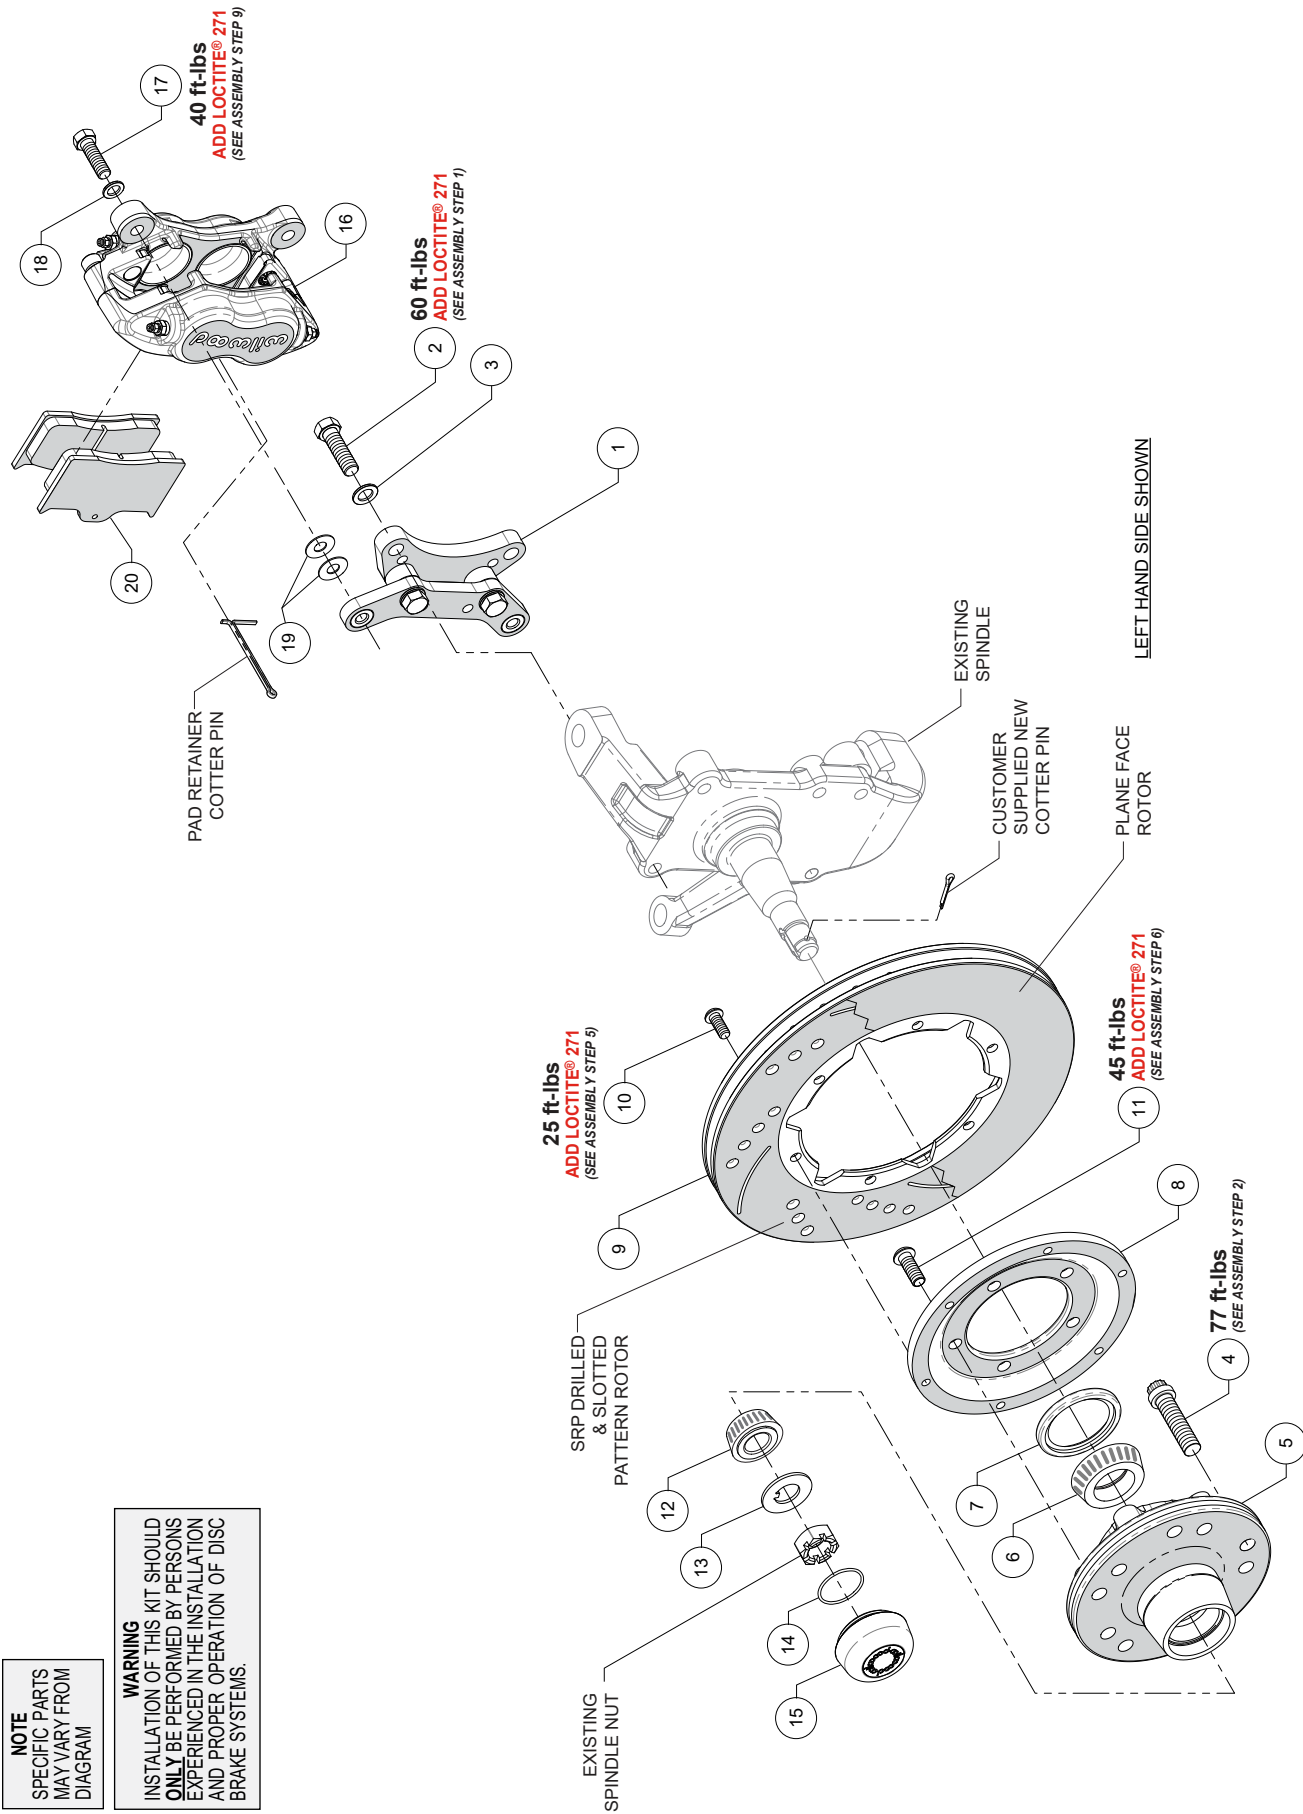
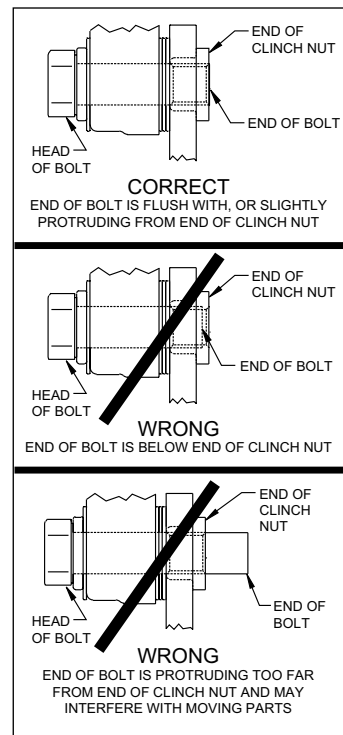

Figure 1. Typical Installation Configuration
Figure 2. Clinch Nut Engagement Diagram
•**NOTE:** Numbers in parenthesis refer to the parts list on the preceding page and Figure 1.
•**CAUTION:** All mounting bolts must fully engage clinch nuts. Be sure to check that all bolts are either flush or protruding through flanged side of clinch nut after shimming, Figure 2.
**STEP 1** Align caliper mounting bracket (1) with the corresponding holes, on the backside of the spindle and attach using bolts (2) and washers (3), as shown in Figure 1 and Photo 1. Temporarily tighten the mounting bolts. Ensure that the flanged heads of the clinch nuts in the bracket are facing outboard, Photo 1. **NOTE:** The bracket must fit squarely against the mounting points on the spindle. Inspect for interference from casting irregularities, machining ridges, burrs, etc. Remove bolts (2) one at a time, apply red *Loctite*® 271 to threads, torque to value shown in Figure 1.
**STEP 2** Install wheel studs (4) into the hub (5), Figure 1, Photo 2. **NOTE:** There are two five lug patterns in the hub (5 x 4.50 and 5 x 4.75). Ensure the correct hub stud pattern is being used to fit the wheel application. Torque studs to value shown in Figure 1.
**STEP 3** Pack the large inner bearing cone (6) with high temperature disc brake bearing grease (available from your local auto parts store) and install into the backside of the hub (5).
**STEP 4** Install the grease seal (7) by pressing into the backside of the hub (5), flush with the end of the hub, Figure 1.
**STEP 5** Orient the rotor (9) and the rotor adapter (8) as shown in Figure 1 and Photo 3. Attach the rotor to the adapter using bolts (10). Apply red *Loctite*® 271 to the bolt threads, and torque to value shown in Figure 1 using a criss cross pattern.
**STEP 6** Mount the adapter/rotor assembly (8/9) to the hub (5) using bolts (11). Apply red *Loctite*® 271 to the bolt threads, and torque to value shown in Figure 1 using a criss-cross pattern.
**STEP 7** Pack the small outer bearing cone (12) with high temperature disc brake bearing grease and install into hub (5). Slide the hub/rotor assembly onto the spindle. Secure using spindle washer (13) and OEM spindle nut, Photo 4. Adjust bearings per OEM specifications. Install saved OEM nut lock (if any) and a new cotter pin (not included).
**STEP 8** Screw dust cap (15) into hub (5). Friction created by the o-ring (14) on the dust cap keeps it from unscrewing. **NOTE:** The O.D. of the existing OEM spindle washer may be larger than the I.D. of the dust cap not allowing it to seat against the hub face. Therefore, use the spindle washer (13) supplied with the kit instead of the OEM washer.
**STEP 9** **NOTE:** Please reference the caution statement at the beginning of the assembly instructions. Mount the caliper (16) onto the caliper mounting bracket (1) using bolts (17) and washers (18), as shown in Figure 1. Initially place two .035" thick shims (19) on each bolt between the caliper and the bracket. Temporarily tighten the mounting bolts and view the rotor (9) through the top opening of the caliper. The rotor should be centered in the caliper, Photo 5. If not, adjust by adding or subtracting shims between the bracket and the caliper. Always use the same amount of shims on each of the two mounting bolts. **NOTE:** The end of each bolt must be flush with or slightly protruding from the head of the clinch nut, as shown in Figure 2. If necessary place spare shims between washer (18) and caliper mounting ear to achieve the proper clinch nut engagement. Once the caliper alignment and clinch nut engagement are correct, remove the bolts (17) one at a time, apply red *Loctite*® 271 to bolt threads, and torque to value shown in Figure 1.
**STEP 10** Install the disc brake pads (20) into the caliper, with the friction material facing the rotor (9) Photo 6, and secure in place using cotter pin, Photo 7.